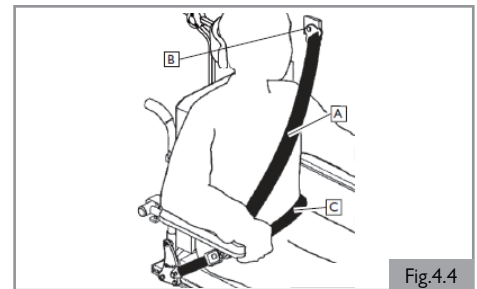

Fig.4.4
14. Both pelvic and upper torso restraint belts must be used to restrain the occupant to reduce the possibility of head and chest impacts with the vehicle components and serious risk of injury to the user and other vehicle occupants (Fig. 4.4)
15. The upper torso restraint belt (A) should be mounted to the vehicle (B) pillar. Failure to do so will increase the risk of serious abdominal injuries to the user (Fig. 4.4).
17. The pelvic restraint belt (C) must be worn low across the front of the pelvis so that the angle of the pelvic belt is within the preferred zone of 30 to 75 degrees to the horizontal (Fig. 4.4).
19. The upper torso restraint belt (A) must fit over the shoulder and across the chest (Fig. 4.4).